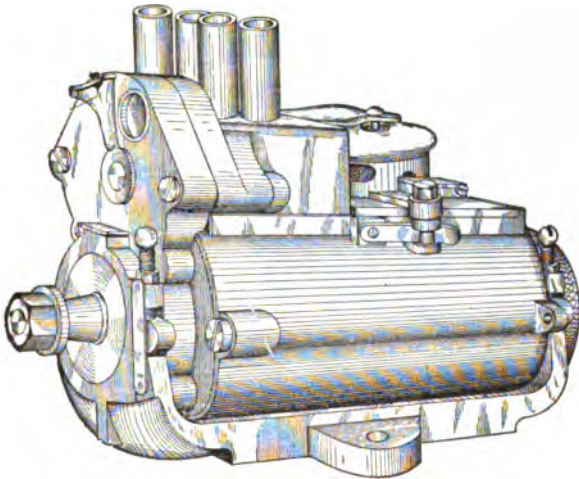
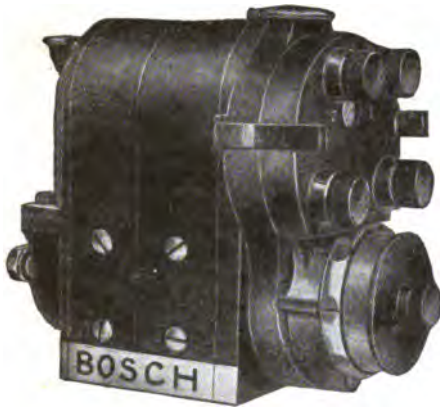
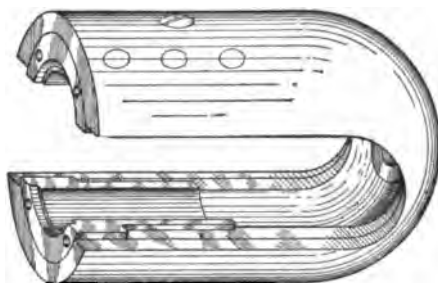

Fig. 96. Mea Magneto in Trunnion Mounting
Fig. 97. Bosch Enclosed Type Magneto
Fig. 99. Bell-Shaped Magnets of Mea Magneto
*Mea Method of Advancing Spark.* Doubtless the most ingenious method of taking care of the necessity for advancing the spark has been developed in the Mea magneto, shown in Fig. 96. Instead of being of horseshoe form, as in the Bosch and Nilmelior magnetos, shown in Figs. 97 and 98, it is bell-shaped, as shown in Fig. 99. The entire magneto is carried in a trunnion mounting so that the field magnets may be turned to the same extent that the contact breaker is moved to give the necessary advance, thus insuring that the circuit will be broken with the armature in the same relative